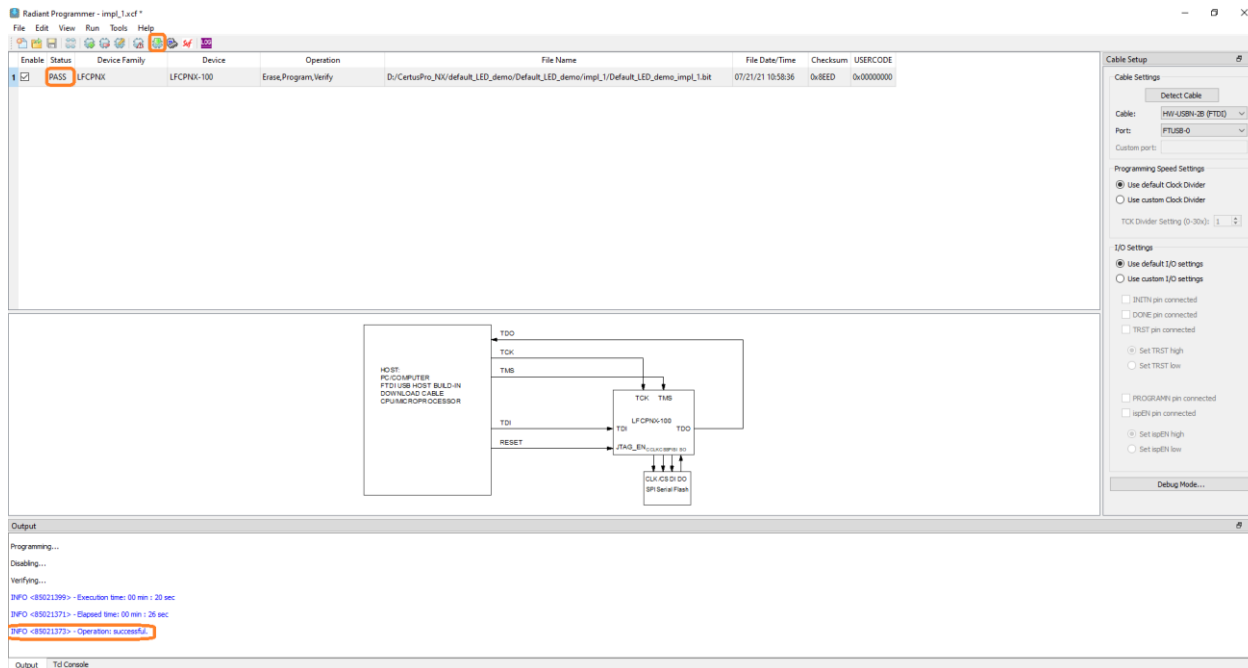

Figure A.7. Radiant Programmer – SPI Flash Operation Pass
- Click the **Program** button in the Lattice Radiant software, as shown in Figure A.7. If the programming is completed successfully, the **Status** column shows **PASS**. The Output pane also shows **INFO – Operation: successful**. The bitstream file is downloaded into the external SPI flash.